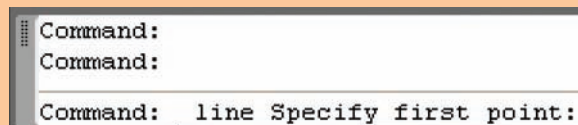

Fig. 2.3 The prompt appearing at the command line in the **Command** palette when **Line** is 'called'
First example – **Line** tool (Fig. 2.3)
- (b) The prompt **Command: _line Specify first point** which appears in the command window at the command line (Fig. 2.3).